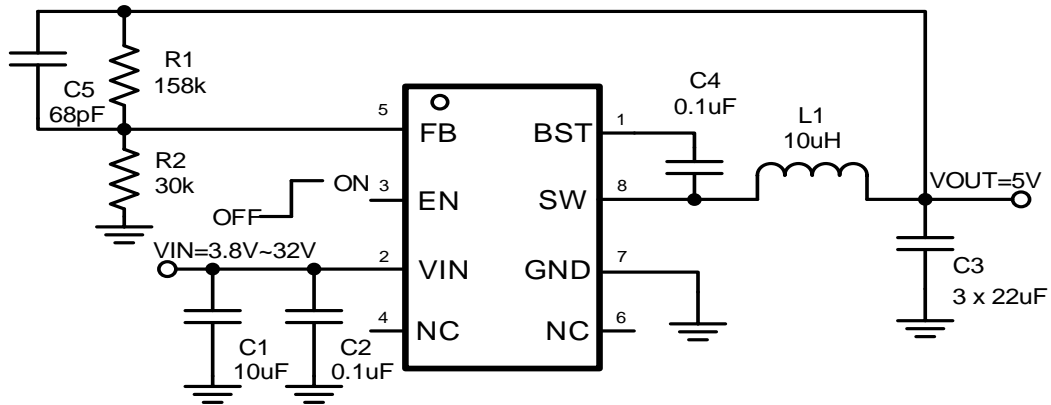

Figure 14. 24V Input, 5V/2A Output
The SCT9320 features external programmable output voltage by using a resistor divider network  $R_1$  and  $R_2$  as shown in the typical application circuit Figure14. Use equation (11) to calculate the resistor divider values.